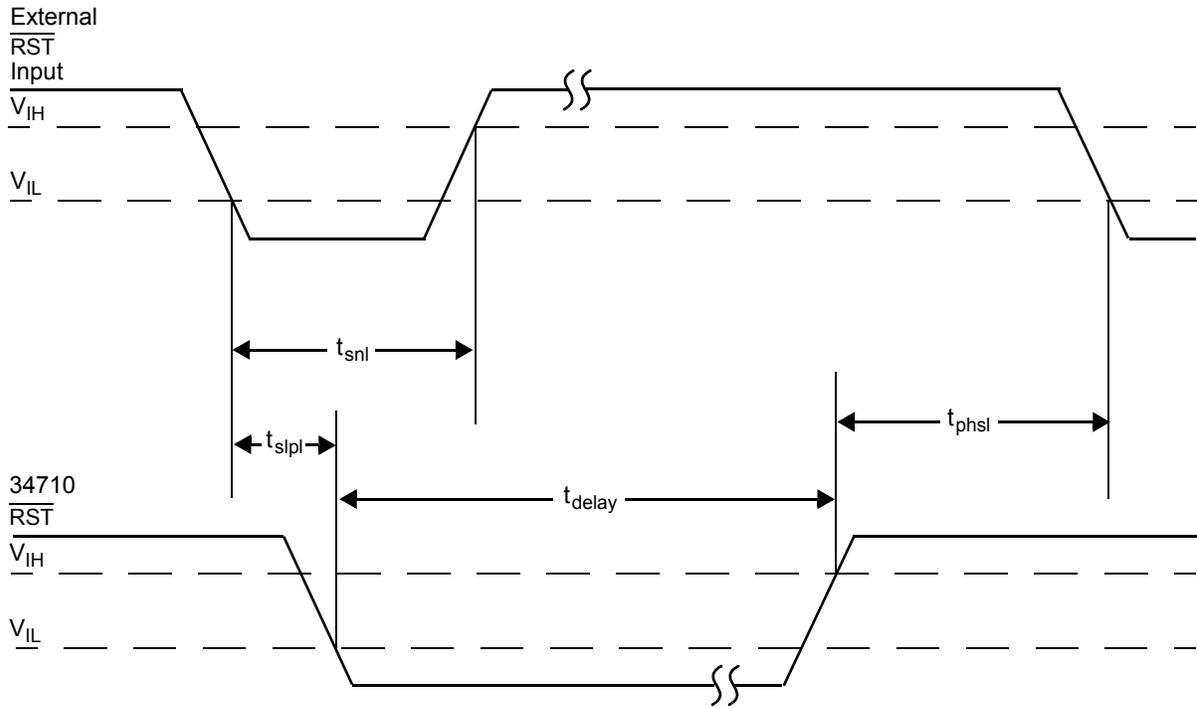

Figure 2.  $\overline{\text{RST}}$  Timing
12. See Figure 2. RST Timing, page 9.
The  $\overline{\text{RST}}$  output is an I/O device with an open drain output driver with a pullup and a CMOS digital input gate (Figure 3). This I/O structure allows wired OR connection to the MCU's  $\overline{\text{RST}}$  I/O terminal, as well as allowing the MCU to initiate a reset cycle by driving its  $\overline{\text{RST}}$  terminal low. When responding to a MCU request for a reset cycle, the 34710 must respond rapidly enough to prevent a glitch. Figure 2, page 9, shows the timing